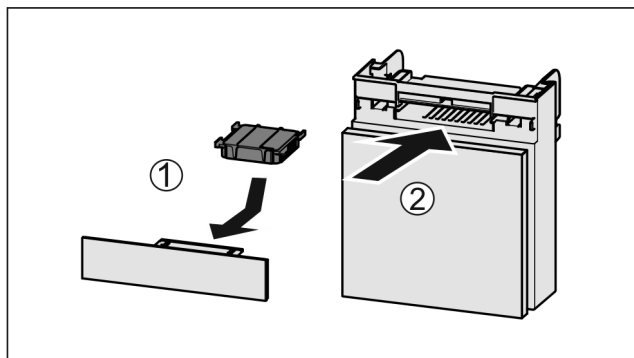

Fig. 201
- Insert the carbon filter as shown in the diagram Fig. 201 (1).
- If the carbon filter is pointing downwards: Push the compartment in Fig. 201 (2).